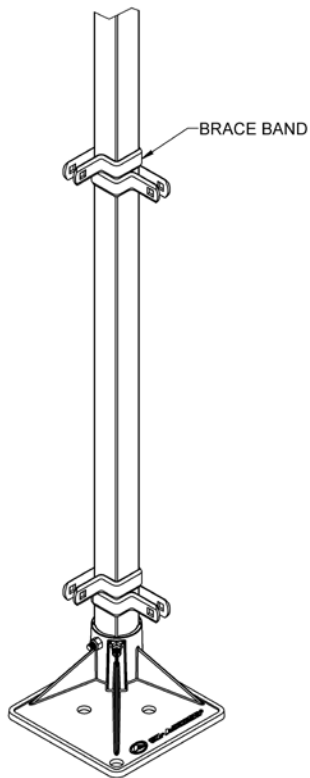

FIG. 6
- 1.11.2 Separate ends of brace bands until they go around the 1-1/2" square support tube and install four bands on each leg with the part containing bolt holes at 90 degrees from each other and in line with the outer edge of the foot (FIG. 6).